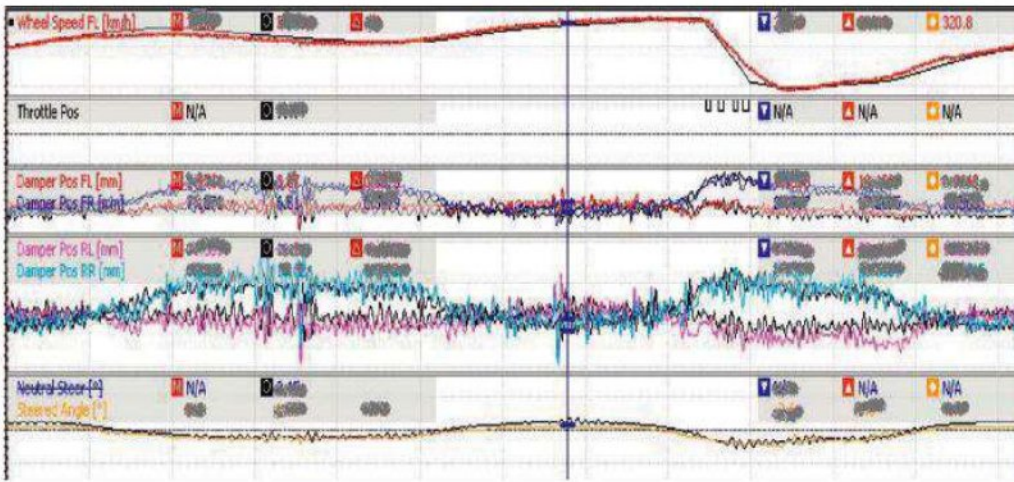

Figure 5: actual data vs simulated data on a high-speed oval using transient lap time simulation
So what do transient lap time simulations look like in practice? To illustrate this, consider this comparison of actual vs simulated data on an oval, as shown in figure 5, where the actual data is coloured, the simulated black. As you can see, there's not a lot of difference, which is the whole point of the exercise. As with the V8 Supercar case, I've blocked out the scaling due to the fact that this is actual data, but you can see clearly that there are some very noticeable bumps on this circuit. As we discussed in equations (5) and (6) this is where pseudo-static simulation is no longer appropriate. This illustrates that the bumps and transients are going to have nearly as much say on your mid-
What you see in figure 5 illustrates the power of transient simulations because it opens up a much wider world of set-up variables to investigate and vehicle properties you can reverse engineer. For example, using transient simulation you can investigate how damper adjustments are going to impact on lap time. You can also see transiently what the car is doing, so you can zero in on what to adjust. Also, remember every lap time simulation you do in transient simulations such as ChassisSim is the equivalent of running the car on a seven-post rig. This is the power of what you have at your fingertips.